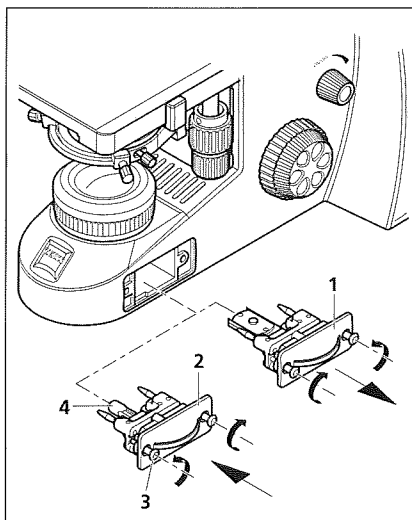

Fig. 13 Replacing the 6V 30W halogen lamp or the LED illumination module
- Loosen both fastening screws (Fig. 13/3) of the illumination module (Fig. 13/1 o 2). In doing so, slightly press the screws against the spring and turn them by 90°: Turn left screw clockwise and right screw counterclockwise.
- Pull the illumination module (Fig. 13/1 or 2) out of the stand.
- If the stand is equipped with a 6V 30W halogen lamp (Fig. 13/2), remove the halogen lamp (Fig. 13/4) from the lamp carrier and insert the new halogen lamp. Do not touch the new lamp with naked fingers as this will reduce lamp life.
- If the stand is equipped with an LED source, replace the complete illumination module including the LED (Fig. 13/1).
- Push the illumination module (Fig. 13/1 or 2) back into the stand and lock it by means of the two screws (Fig. 13/3). In doing so, slightly press the screws against the spring and turn them by 90°: Turn left screw counterclockwise and right screw clockwise.